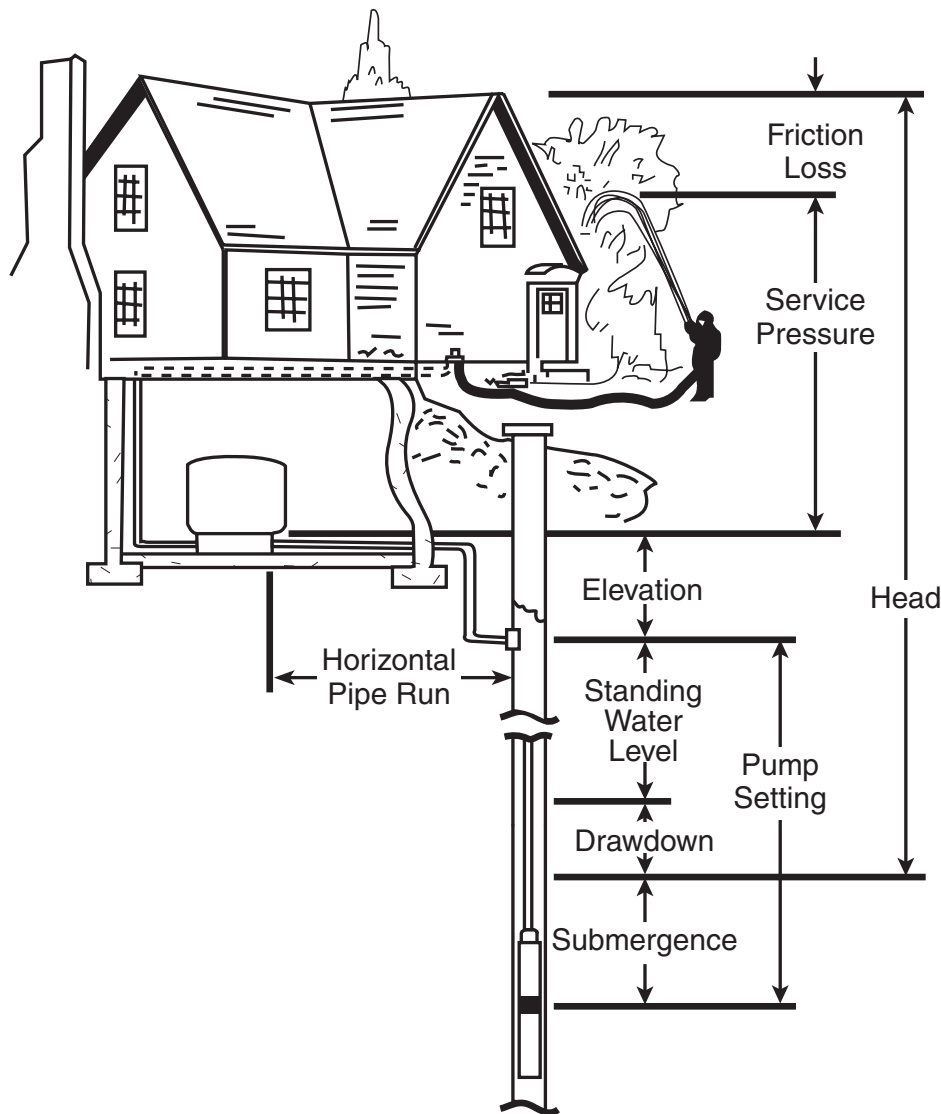

Figure 13-1: Common Pump Terminology
- What is the submergence?** The vertical distance in feet from the pump to the water level while the pump is operating (see Figure 13-1). If the pump is installed away from the well and is on higher ground, this elevation must also be included. This must not be confused with the standing water level.